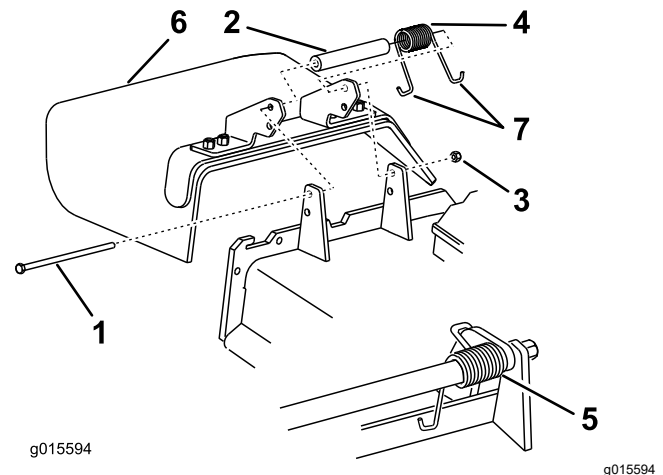

Figure 89
1. Remove the locknut, bolt, spring, and spacer holding the deflector to the pivot brackets (Figure 89).
2. Remove the damaged or worn grass deflector (Figure 89).
Note: Make sure that 1 J-hook end of the spring is installed behind the deck edge before installing the bolt as shown in Figure 89.
6. Place 1 J-hook end of the spring around the grass deflector (Figure 89).